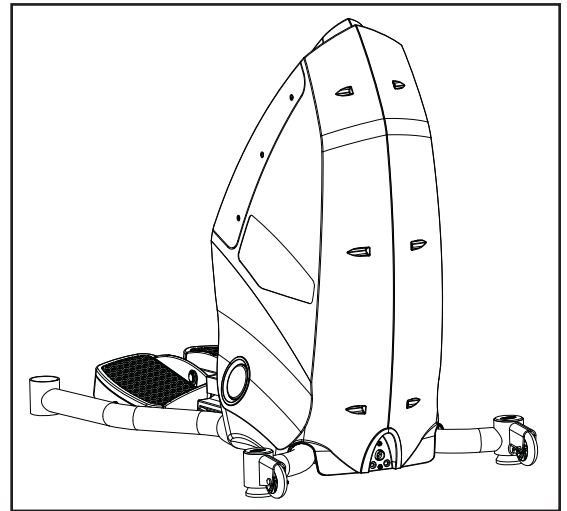

Figure 6
**4-1** Pull the lower body of the SC916 forward, and with the assistance of another person lift the machine off the shipping pallet and on to the floor (see Figure 6).